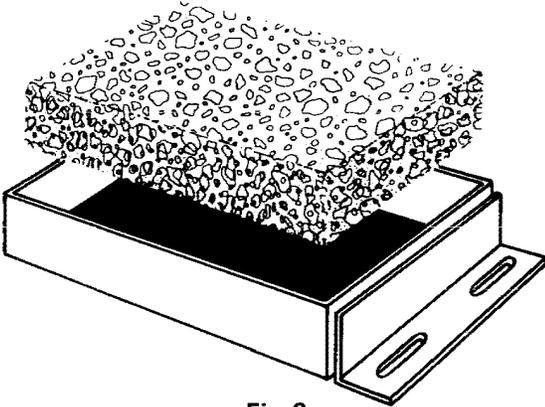

Fig. 3
2.05 Sponge and Tray: The TPW 455 Kleen Tip sponge is used to clean the soldering iron tips. This sponge also works on the KS iron plated tips. The TPW3 sponge tray mounts on the 504A soldering copper holder (see Fig. 3).